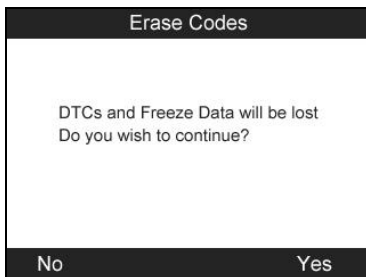

Figure 4.28
- 2) The tool will display a warning message for your confirmation. Select "**Yes**" to continue, "**No**" to exit. (Figure 4.28)